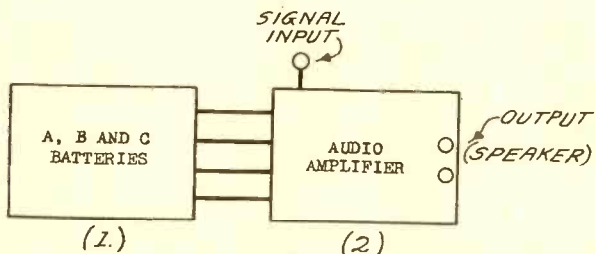

FIG. 1.
A SCHEMATIC DIAGRAM OF THE BATTERY-POWERED TWO-STAGE AUDIO AMPLIFIER. THE COMPONENTS (1) AND (2) ARE AS IN FIG. 1, WHICH THE ABOVE DIAGRAM PARTICULARIZES.